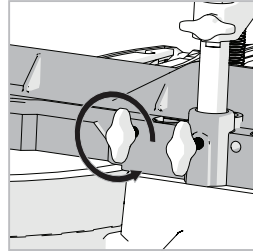

Fig. 10
- Loosen the thumbscrew. (**Fig. 10**)